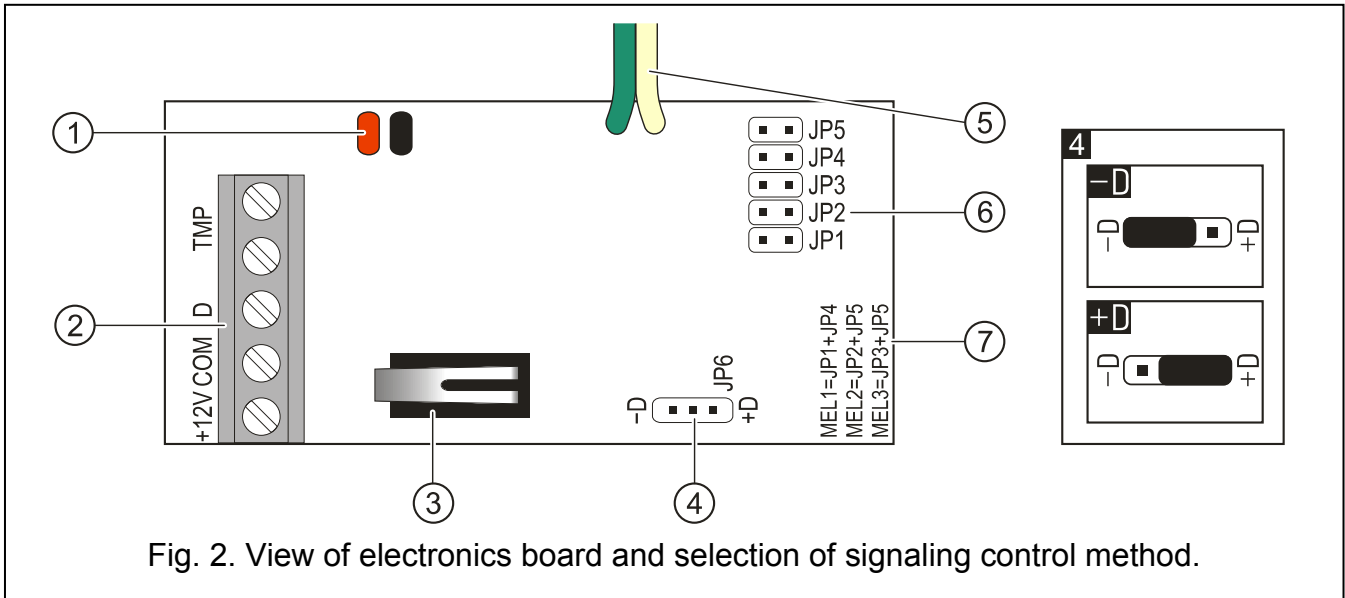

Fig. 2. View of electronics board and selection of signaling control method.
- 5 - electronics board (Fig. 2).
Explanations for Fig. 2: